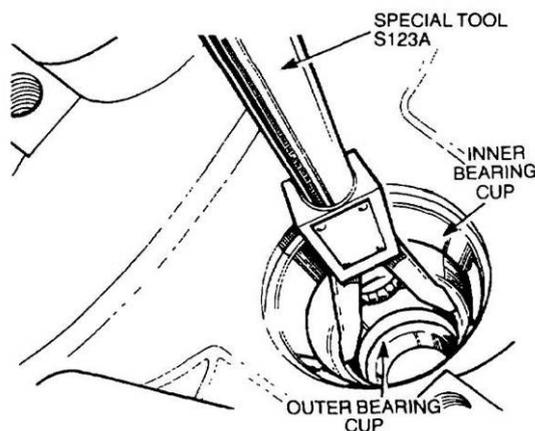

Figure 229 Removal of the Pinion Bearing Cup
- l. Remove the oil seal, gasket, oil thrower and outer bearing cone. Using special tool S123A, remove the inner and outer pinion shaft bearing cups from the casing. Remove the shims fitted behind the inner bearing cup (Figure 229) and record the shim thickness.